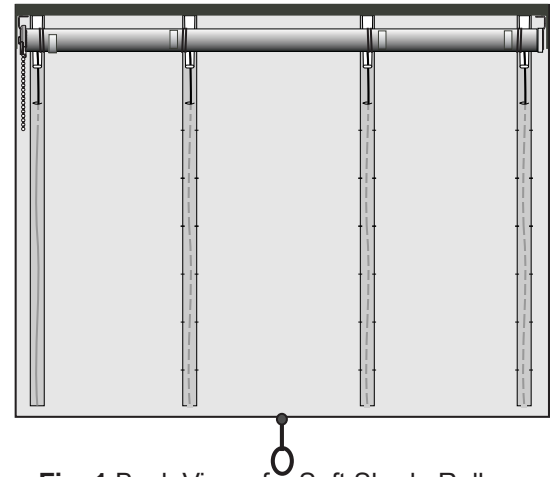

Fig. 1 Back View of a Soft Shade Roller Clutch System
The **Soft Shade Roller Clutch System** manually raises or lowers soft shades by using Roller-Clips to attach the lift cords to the roller. **The total weight of the shade should be less than 8 lb for RC3; and 15 lb for RC4 clutch.** Compared to our Soft Shade Clutch System, this system is easier to fabricate. This system also raises and lowers the shade much faster, however the pulling force required to raise the shade is much higher. In addition this system has a shade **length limitation of 10 feet or less.** Longer lengths may not raise evenly. Fig. 1 shows the back view of an assembled soft shade roller clutch system with 4 Roller-Clips on the roller when the shade is all the way down.
Encased Lift Cord Shroud Tape Arrangement (see Fig. 1): The shade can be made with Encased Lift Cord on the edge or well inside the edge of the shade. It is important to consider Encased Lift Cord location and spacing before you attach Encased Lift Cord to your shade. **Recent industry child safety guidelines recommend a 2" space between the edge of the shade and the edge row of Encased Lift Cord. The topmost Encased Lift Cord Tape on the shade should be no more than 8" below the dust board. The cord should exit the encased lift cord tape just above the last track.**
Roller Clip Arrangement (Fig. 1): Roller clips should be $\frac{3}{4}$ " offset from the lift cords. Roller clips should be mounted to the left and right of the lift cords alternately across all inner lift cords. Otherwise shade may creep to one side when raised.
Step 8. Put the roller clips on the roller. **When looking down the roller, be sure all clips are aligned and every roller clip is offset alternately from its corresponding lift cord by 3/4" as shown in Fig. 1.** Once the clip is attached to the roller it will not slip or pop off the roller. You may insert a screw driver underneath the clip and lift it slightly for small positioning adjustments.
Step 9. Temporarily install dust board to the wall. Pull the control bead chain so that the clips are at the bottom of the roller as shown in Fig. 1. Tie the other end of each lift cord to its corresponding bottom ring. If necessary adjust the cord tension by re-tying the cord to the bottom ring or use an orb for easy leveling/adjusting. Run the shade up and down several times, and check for either too much tension or slack on the lift cords when shade is all the way down. Finally take off orb, if used, and tie off cord through the bottom ring. Trim off excess cord.